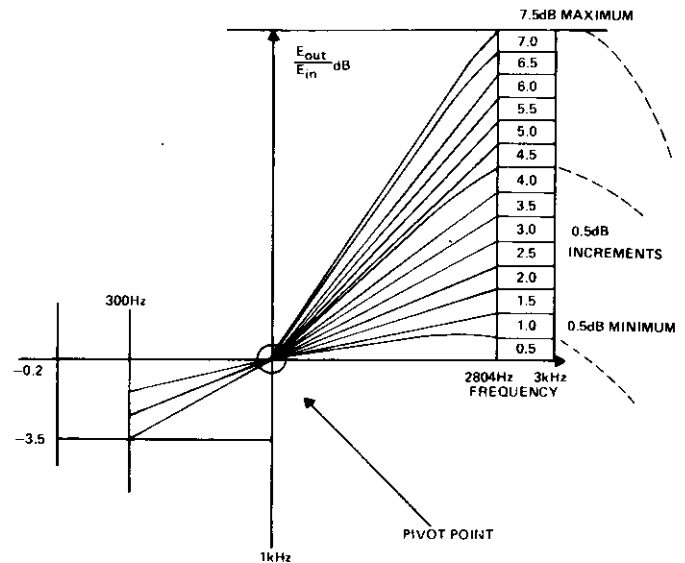

figure 2. Typical response curves for 9908A Equalizer subassemblies
2.05 Prescription slope equalization for nonload-cable may be introduced into the transmit and receive channels by equipping each module with two 9908A Active Slope Equalizer Subassemblies. Each 9908A provides up to 7.5dB of equalization at 2804Hz (re 1000Hz) in 0.5dB increments. Each 9908A plugs into a 5-pin connector that provides electrical as well as physical connection to the 6947 and 6947A modules. Frequency response of the Equalizer is shown graphically in figure 2 and in tabular form in table 1.